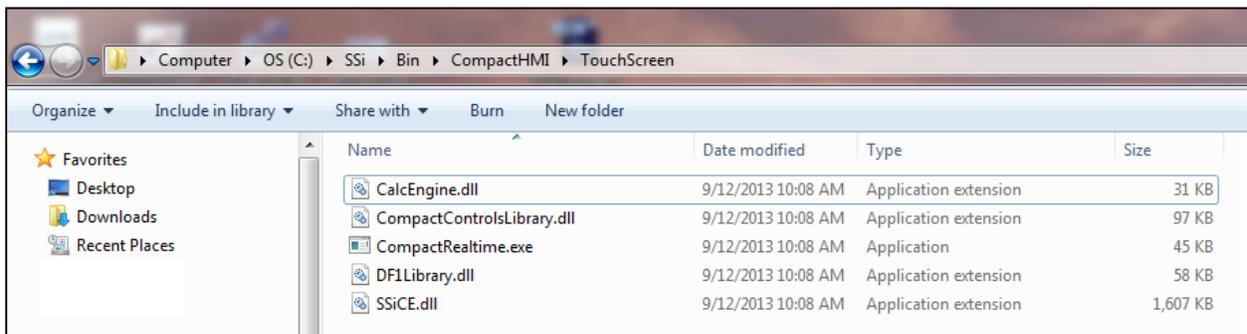

Figure 42 - TouchScreen folder (for updated touch screen files)
1. Locate the **TouchScreen** subfolder in the folder where Compact HMI Editor is located. An example is shown in Figure 42 (where the subfolder is “C:\SSi\Bin\CompactHMI\TouchScreen”).